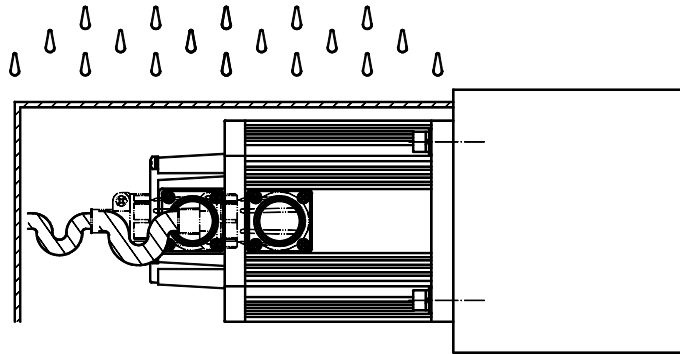

Fig. 8
9.3 When the motor connector side gets along the horizontal direction, the cable should be bent as the semi-circle of drop shape before connecting the connector, which is shown as figure 8.